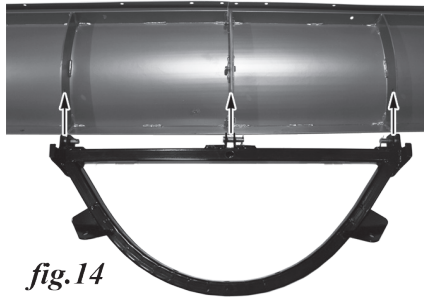

fig.14
11. Align the D frame's 3 attachment points with the two vertical centre ribs of each plow blade panel as well as the double, joined vertical ribs in the middle of the plow (fig.14). Insert clevis pins through each attachment point and the vertical ribs on the back of the blade. Secure the clevis pins (23, fig.15) in place with cotter pins and bend them so they remain in place.